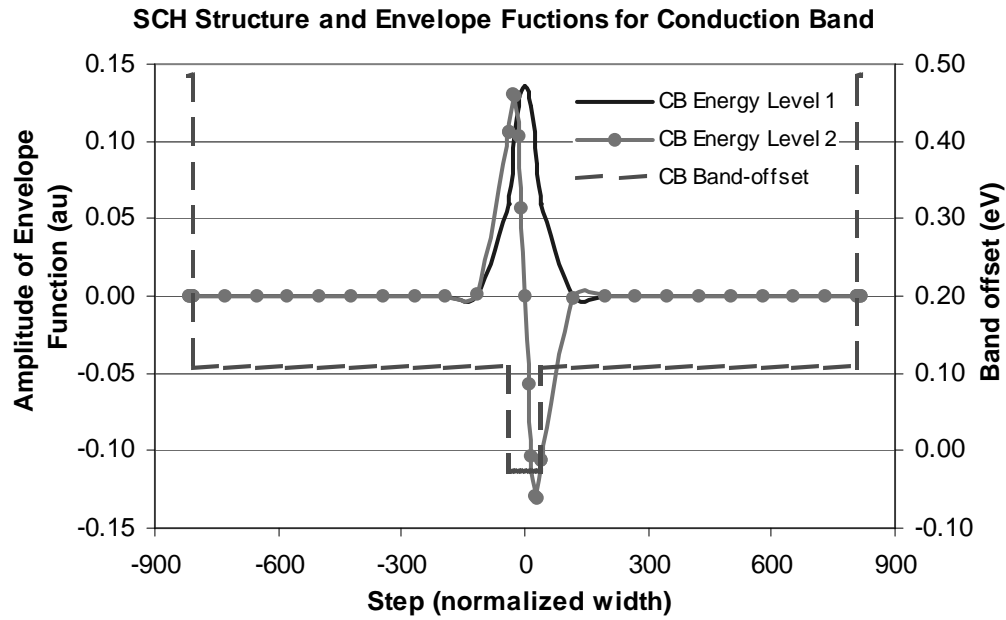
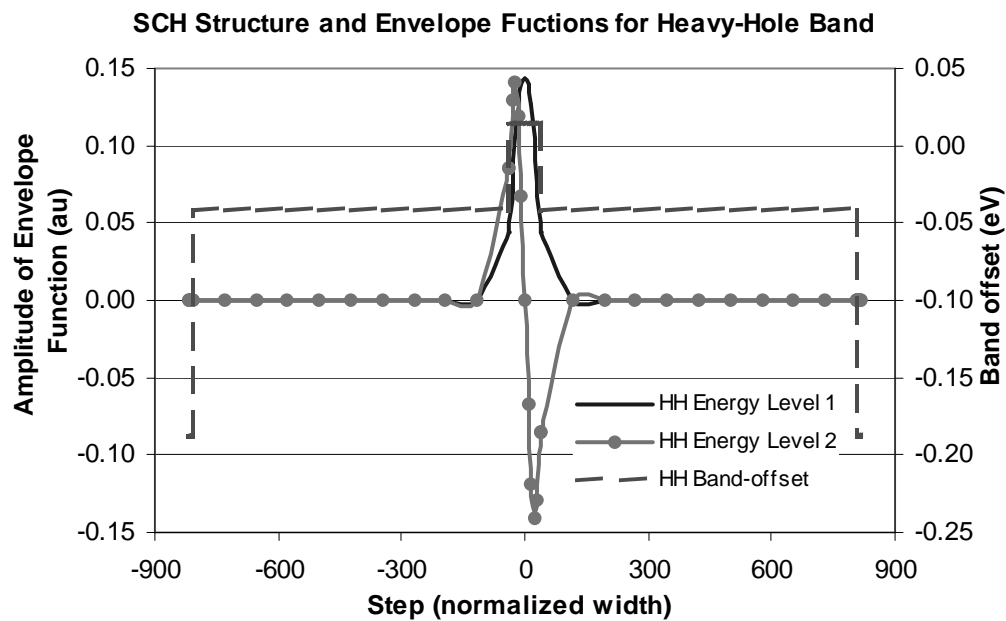
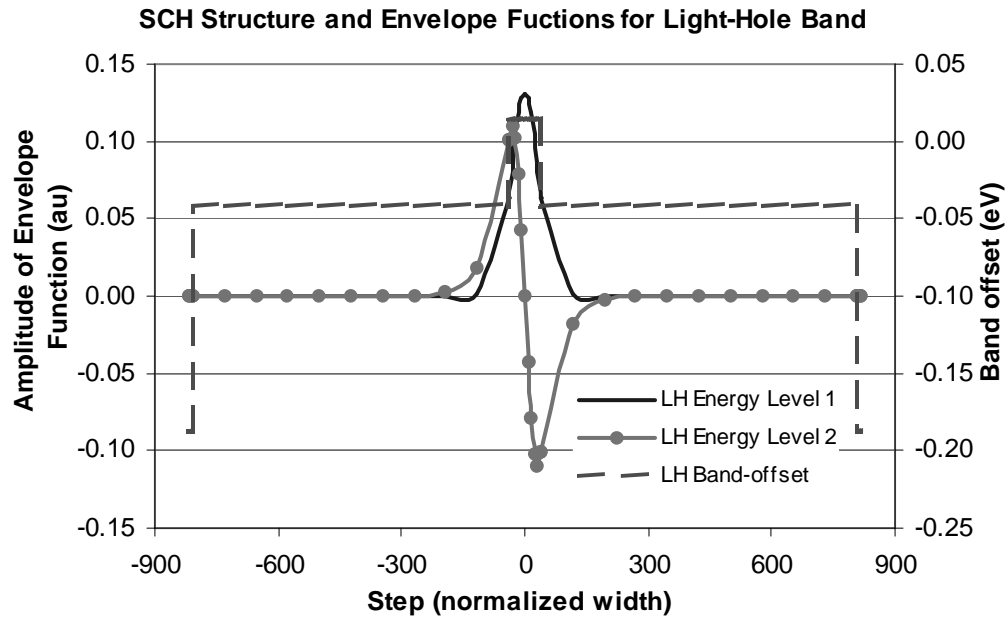

Fig. C.9.2. Wave envelope functions for energy levels in conduction band
Fig. C.9.3. Wave envelope functions for heavy hole energy levels
Fig. C.9.4. Wave envelope functions for light hole energy levels
b) The main output file from this part of GAIN program is energy.dat, containing all the energy levels as shown in Table C.9.5. After the energy eigen values are calculated, the GAIN program asks the users whether they would like to check the wave envelope function or not. We suggest that the user should check the wave envelope functions of the first and second energy levels for conduction and valence bands. The plots of the envelope functions are shown in Fig. C.9.2, Fig. C.9.3, Fig C.9.4.